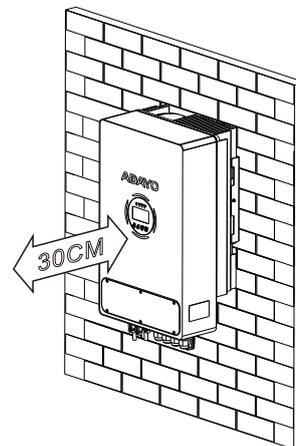

Figure 6
- Ensure adequate heat dissipation by following the minimum clearance requirements from walls, other inverters or objects, as shown in the table below and in Figure 6.